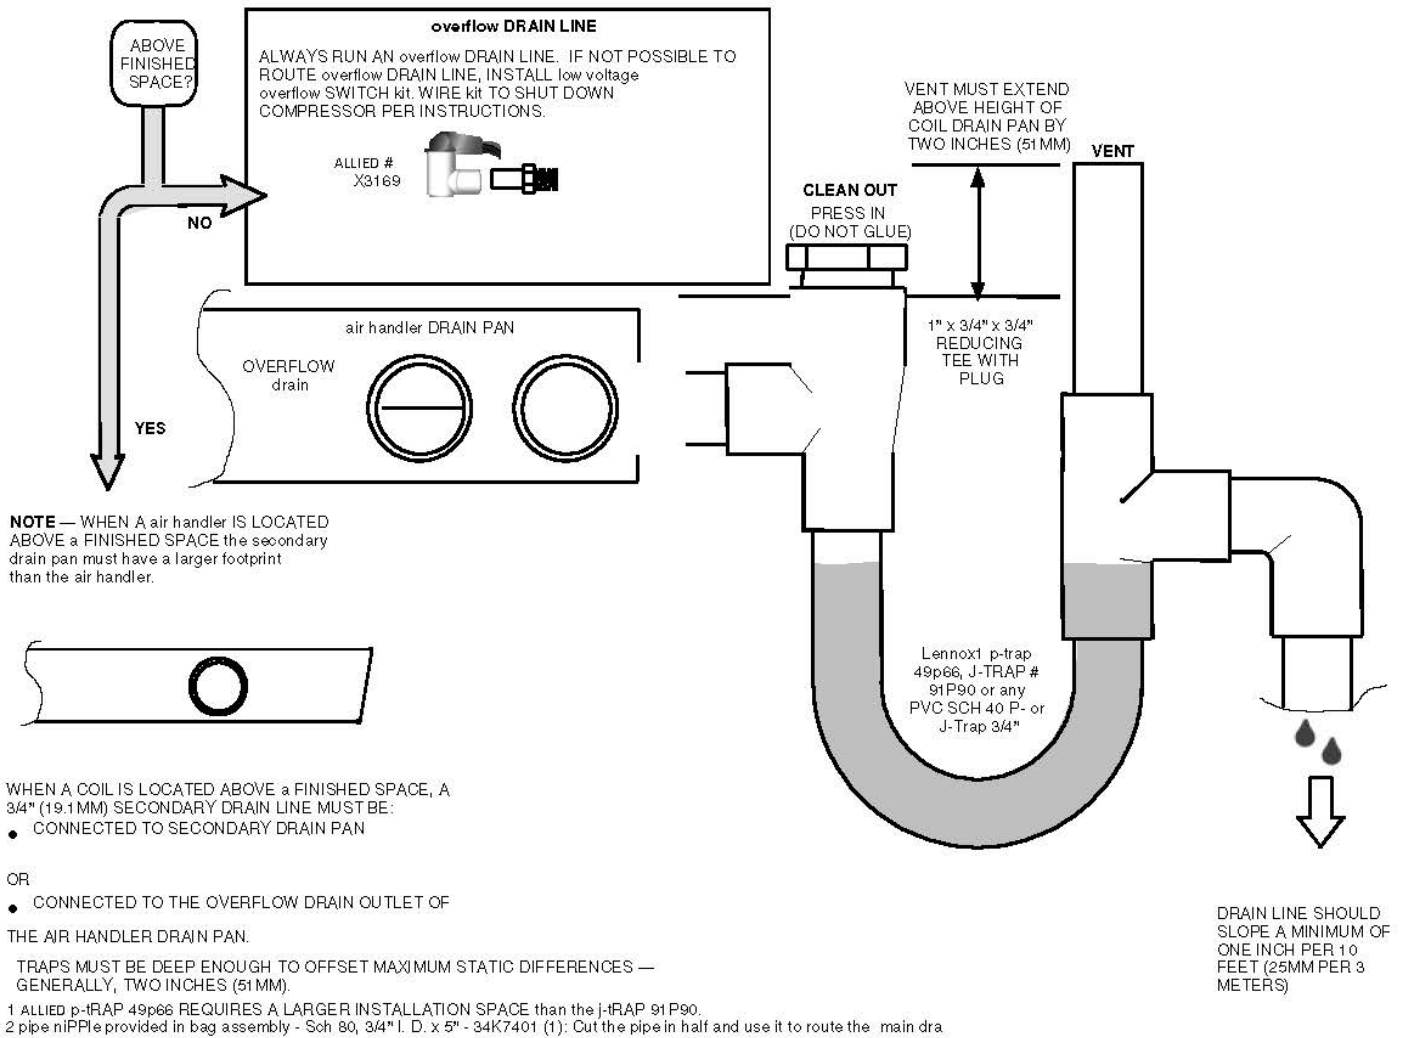

Figure 9
7. Install a 2" trap in the primary drain lines as close to the unit as practical (see figure 9). Make sure the top of the trap is below the connection to the drain pan to allow complete drainage of the pan.
**NOTE:** Horizontal runs must have an anti-siphon air vent (standpipe) installed ahead of the horizontal run (See Figure 9). An extremely long horizontal run may require an oversized drain line to eliminate air trapping.